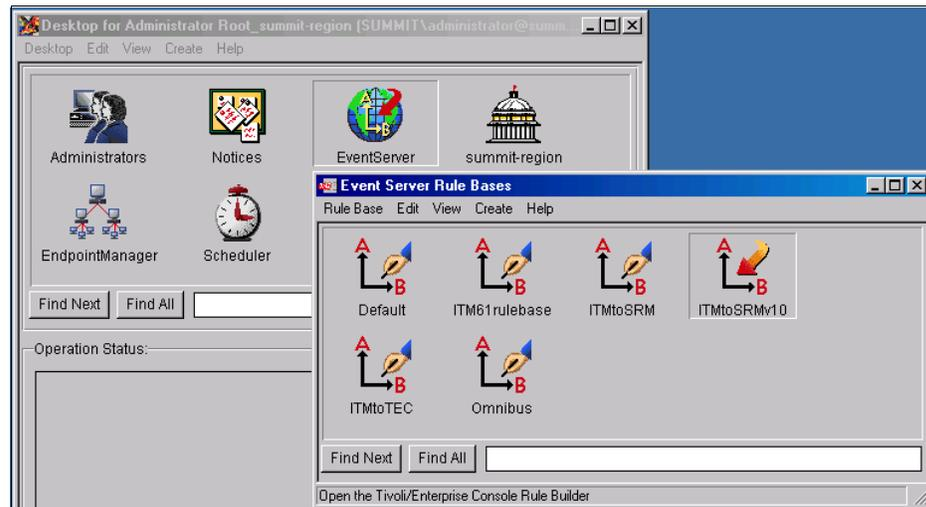

Figure 3-5 New rule set created and activate
3. Open the EventServer icon, as shown in Figure 3-5 on page 123. The new rule base appears.